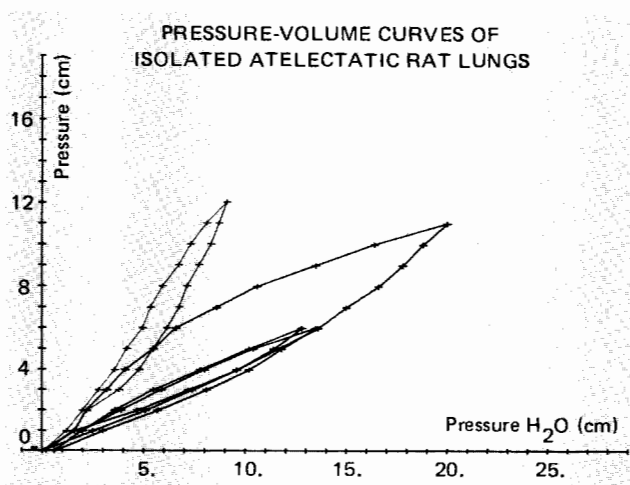

FIGURE 3
The experiment devised by Karl von Neergard is performed, which illustrates the contribution of surface tension to the elasticity of the lungs. Isolated collapsed rat lungs are "inflated" with either a known volume of air or with saline and the resulting pressures are recorded; the lungs are then deflated. The student can observe that the pressure required to enlarge the lungs with fluid is less than half of that required to inflate the degassed lungs with air (9). A program has been written so that the paired pressure-volume values are entered into the HP 9810A Calculator for the air-filled and fluid-filled lungs and a graph is constructed on the HP 9862A Plotter of the Pressure-Volume Curves of the isolated atelectatic rat lungs. The pressure in cm H₂O is shown on the abscissa and the volume is indicated on the ordinate. See Figure 3.